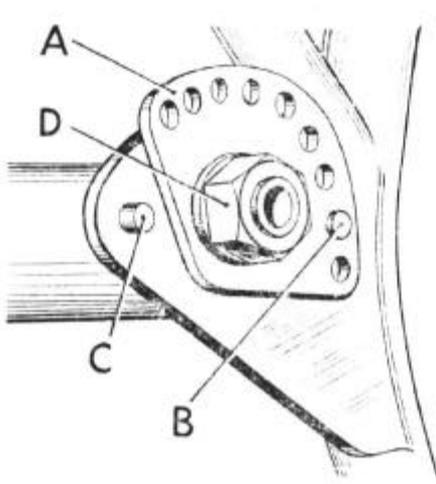

FIGURE 21.
Chain adjusters are situated at the swinging arm pivot (Fig. 21), and comprise quadrants (A) - one on each side - pierced with holes positioned at different radii from the pivot. Slacken the securing nut (D), lift the quadrants off their retaining pegs (B) and draw the swinging arm rearwards, rotating the quadrant until a new hole is aligned with the peg in the frame. Corresponding holes must be selected for both sides of the machine. Now tighten the securing nut and readjust the brake.